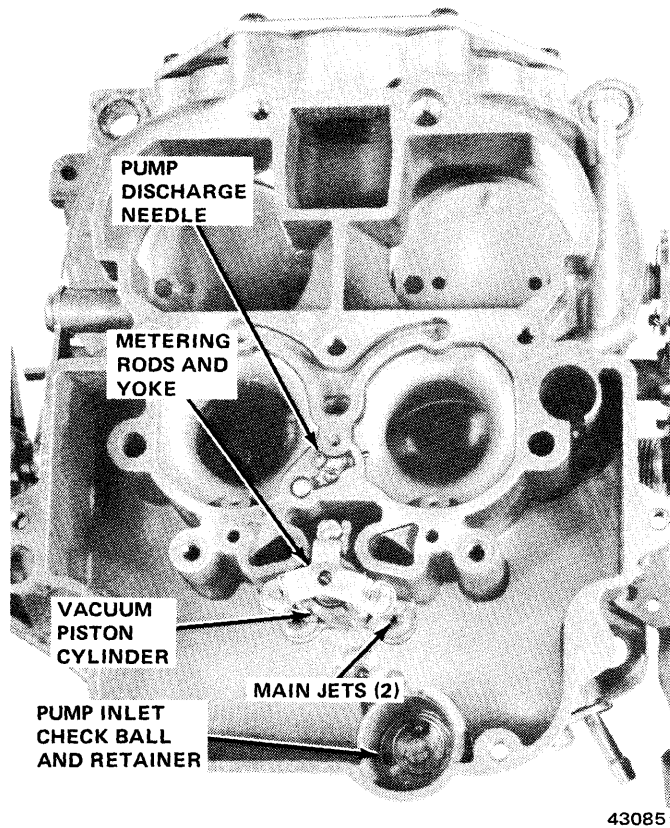

Fig. 4-125 Fuel Bowl Interior
- (14) Remove accelerating pump arm retainer and slide accelerating pump lever and rod from air horn.
- (15) Remove accelerating pump from pump arm.
- (16) Turn main body upside down and catch accelerating pump discharge needle and check ball (fig. 4-125).
- (17) Remove main metering jets.